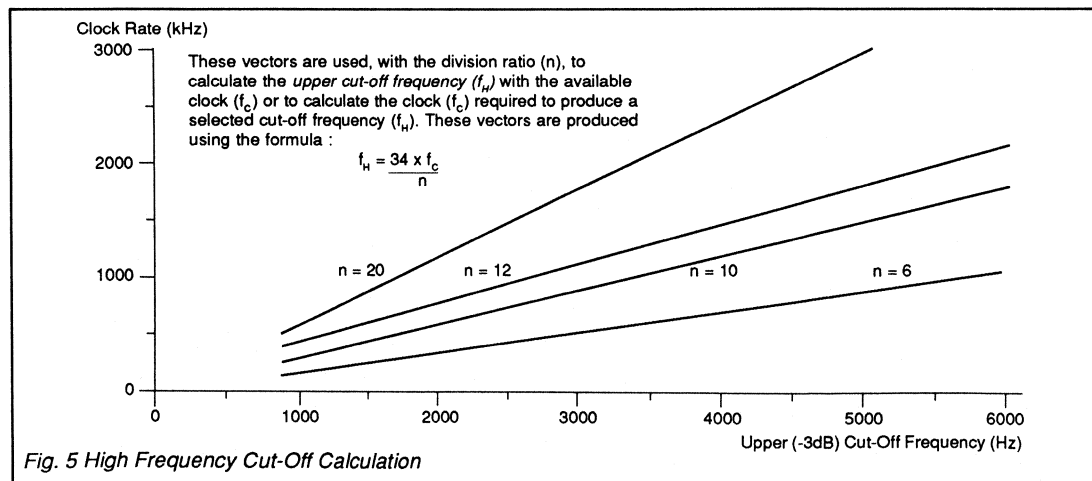

Fig. 5 High Frequency Cut-Off Calculation
**Lowpass Output** : The audio output of the lowpass filter section whose upper cut-off frequency (-3dB) is determined by the input clock frequency (fC) and the selection control inputs, S1 and S2, see Figure 5. This output is internally biased to VBIAS.